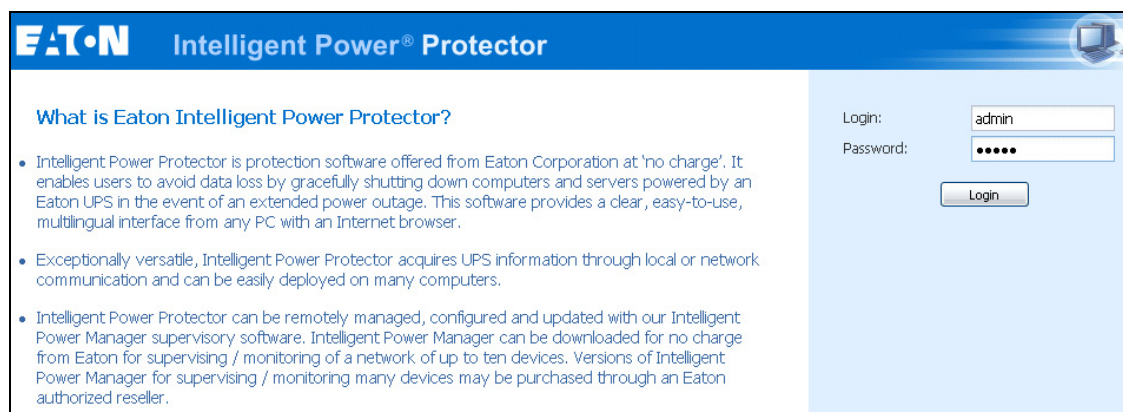

Figure 3. Login Screen
3. Read the application description. Type the login and password and click **Login** (see Figure 3). The default entry for login and password is **admin**.